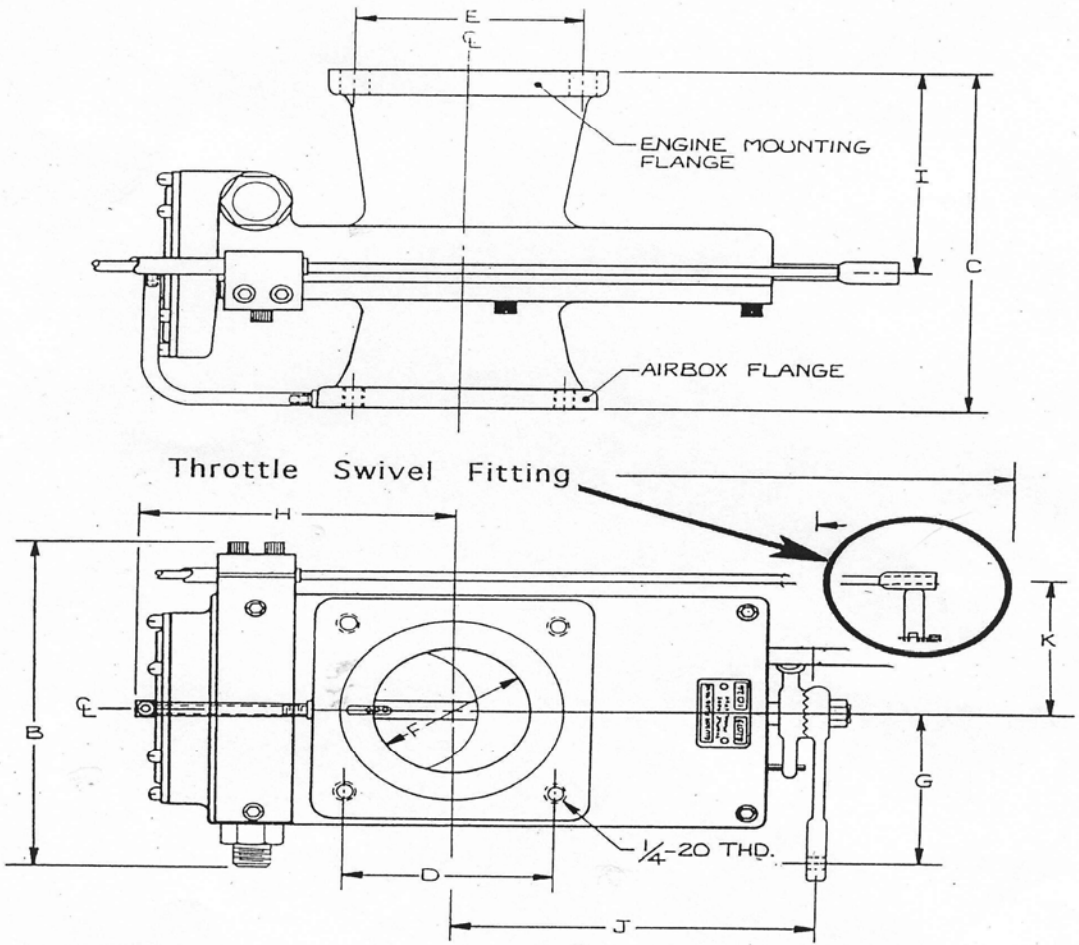

Fig. 1
Ellison Fluid Systems, Inc. has discovered two instances of excessive wear of the ball swivel fitting which connects the throttle linkage to the Throttle body Injector throttle shaft. See attached Fig. 1 for location of the swivel fitting. These two worn fittings were found on aircraft with rod type throttle linkages. Inflight throttle linkage disconnect with resulting engine failure will occur if this wear continues uncorrected.
1. See figure 1 for the location of the swivel fitting.